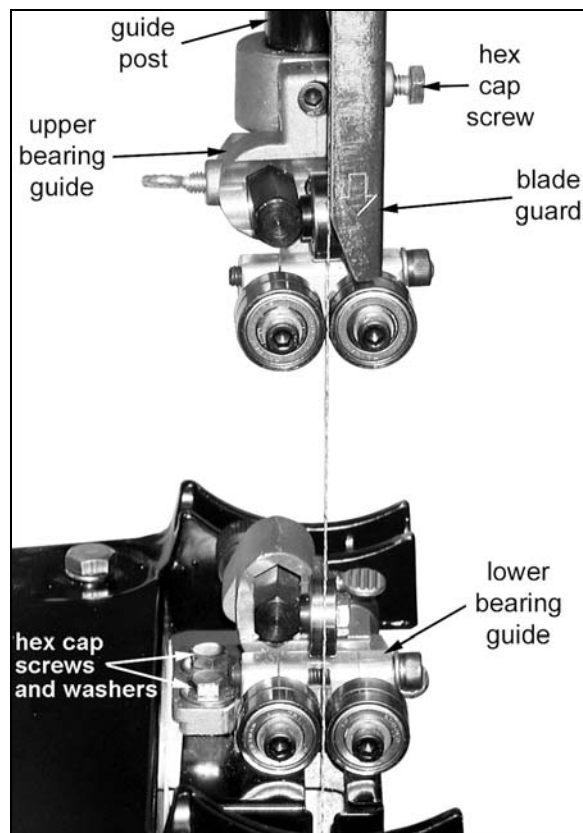

Figure 1
Referring to Figure 1:
1. Attach the *lower bearing guide* (Fig. 1) with two *hex cap screws and washers* (Fig. 1).